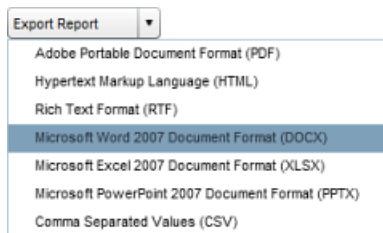

FIG. 366 Export Report menu
- a. Click **Export Report** to open a drop-down menu of export format options (FIG. 366):